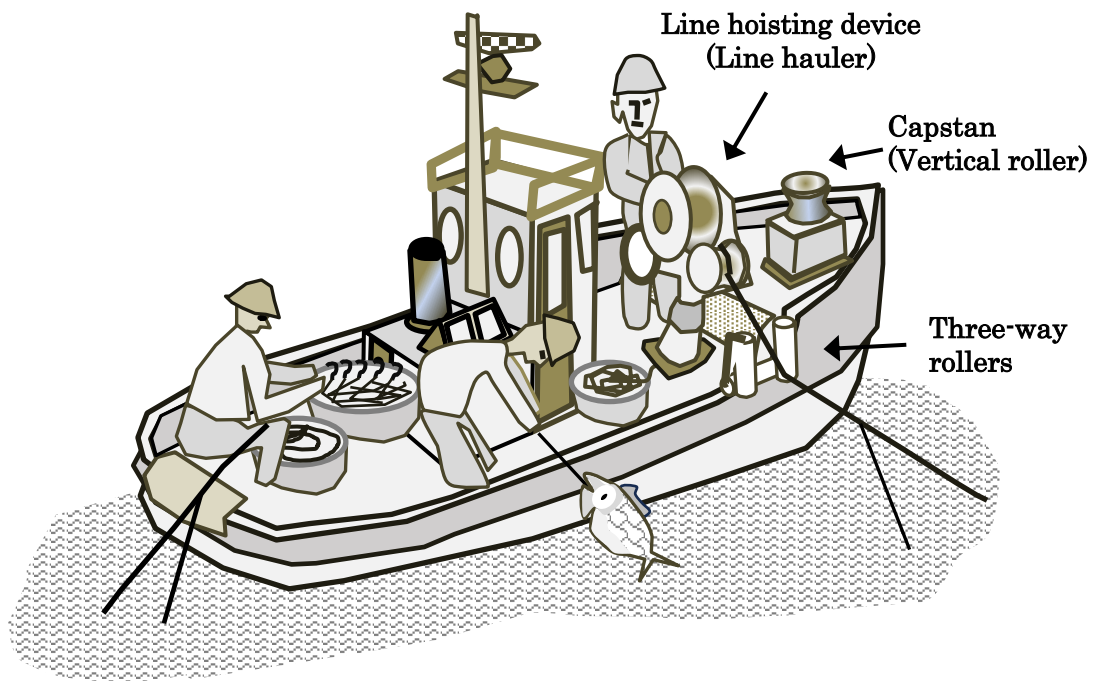

Figure 30: Illustration of longline fishing vessel operations
(2) Waiting Time
(3) Line Hoisting Work
- The line hoisting work begins with taking each flag buoy with a flag pole onto the ship, and then pulling up the float lines and anchor lines to raise the anchors. After that, the main line is attached to (wound onto) the line hoisting device through the three-way rollers and hoisted. While hoisting the main line, the branch lines are removed for the bottom longline, and the thicker branch lines and ball floats for the bottom vertical longline. While doing so, the fish caught on the hooks are removed and placed into a fish hold or fish box. (Figure 30)